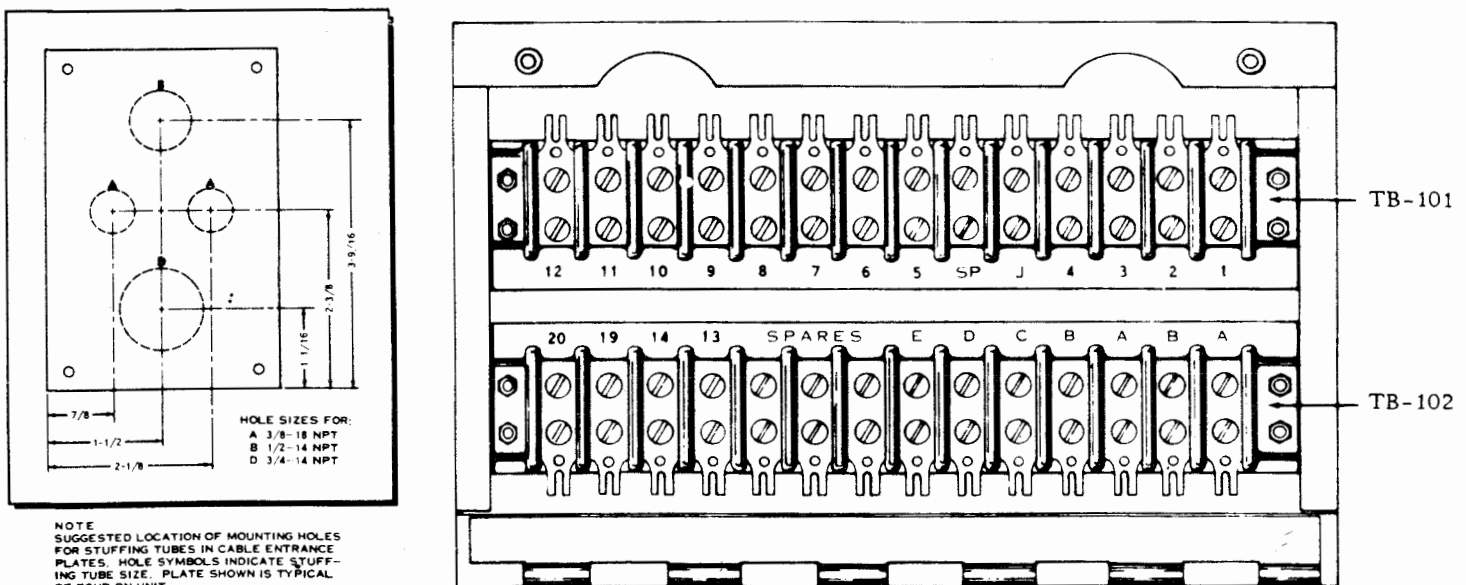

FIGURE 2-2. CABLE STUFFING PLATES AND TERMINAL BOARDS
c. CABLING. The unit is provided with cover plates on each side of the box except the front and back. These holes are covered by steel plates which are removable to permit them to be drilled for cable stuffing tubes as required. The plates will accommodate two size A, one size B and one size D stuffing tubes if necessary. Suggested procedure is shown in figure 2-2. After mounting the cable stuffing tubes the access plates are replaced on the case and the entrance cables connected to the terminal boards as required. The terminals are marked as shown in figure 2-2. Entrance to the case may be made through one or more access plates as required.